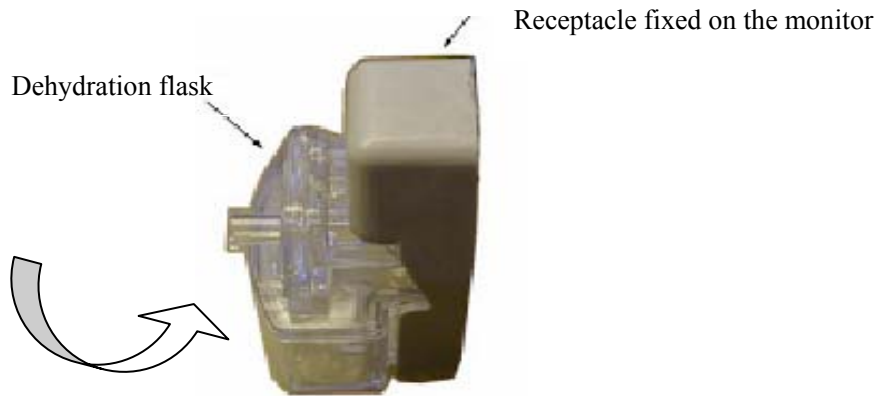

Fig.5-7-1 The installation sketch map of dehydration flask
- According to the Fig. 5-7-1, snap slantways dehydration flask on the receptacle fixed on the monitor. It will click into place when properly seated.